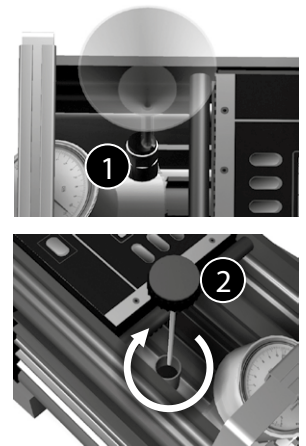

Fig. 7
Clean the housing of oil. Cleaning material and oil residue must be properly disposed of (Fig. 7).
Install dipstick (1) in clockwise direction (Fig. 7).